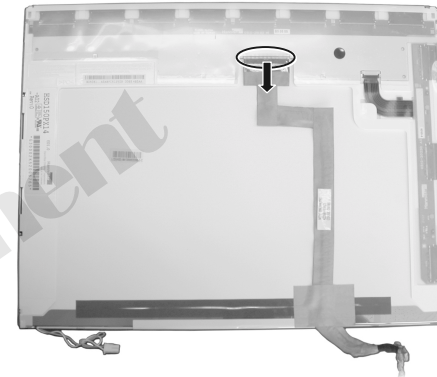

Figure 2-21 Free the LCD panel
6. Disconnect the cable to free the LCD panel. (Figure 2-21)